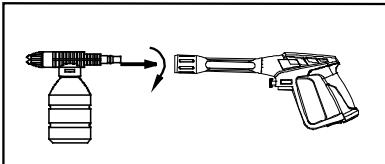

Figure 6 – Attach the applicator to the spray gun
4. Attach the detergent applicator to the spray gun (see fig. 6).